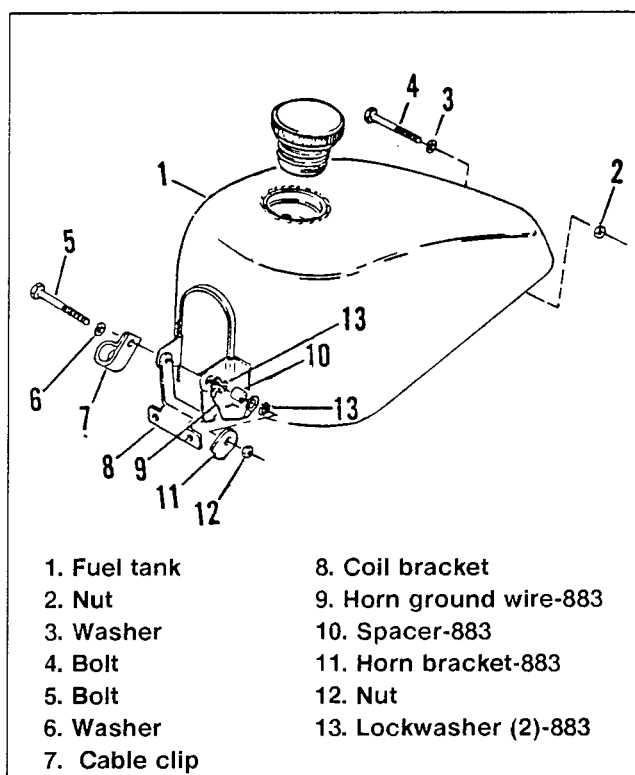

Figure 1. Fuel Tank Assembly
2. See Figure 1. Remove the two bolts with hardware (2 through 13) that attach fuel tank to frame. Remove fuel tank (1).
11. See Figure 1. Install fuel tank and secure to frame with bolts and hardware (2 through 13). Tighten fuel tank mounting bolts to 19 ft lbs torque. Connect fuel supply hose to fuel valve and install new hose clamp.